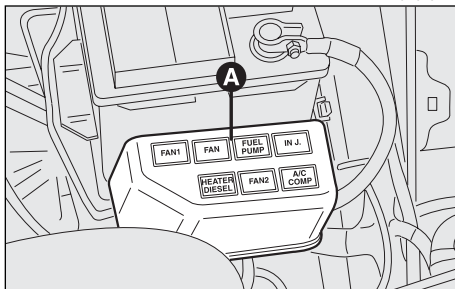

fig. 8
- remove the cover (**A-fig. 8**);